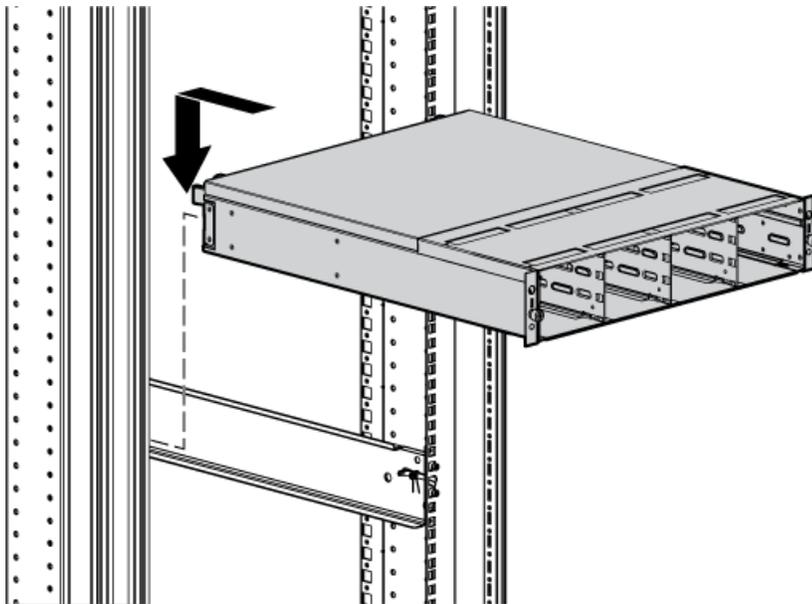

Figure 9 Installing an enclosure (view from front of rack)
2. Align the enclosure with the rails and slide it into the rack (Figure 9).